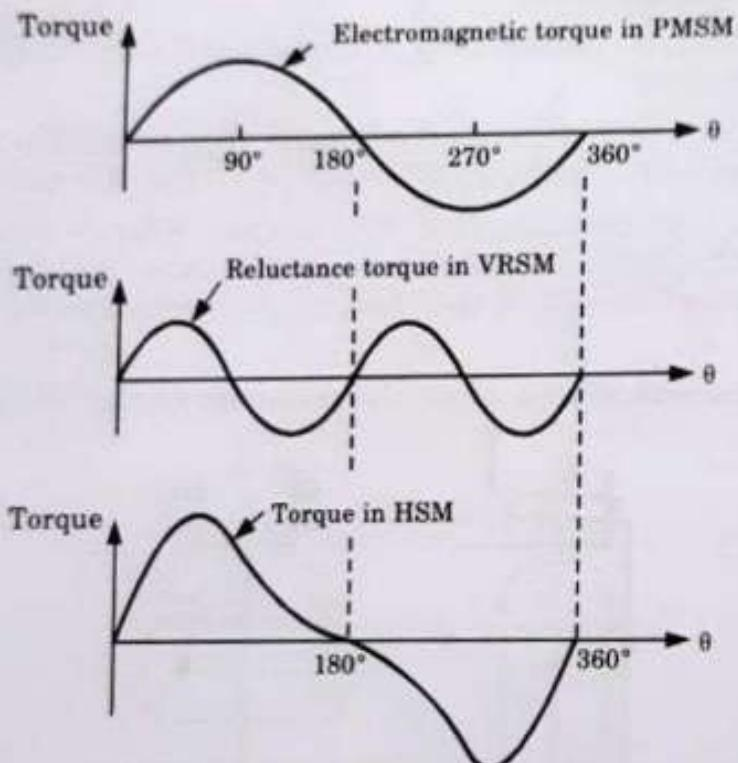

Fig. 2.12.3. Pertaining to torque in a hybrid stepping motor.
2. Therefore, the resultant torque in a hybrid stepping motor is obtained by the addition of electromagnetic torque as in PMSM and reluctance torque as in VRSM as shown in Fig. 2.12.3.